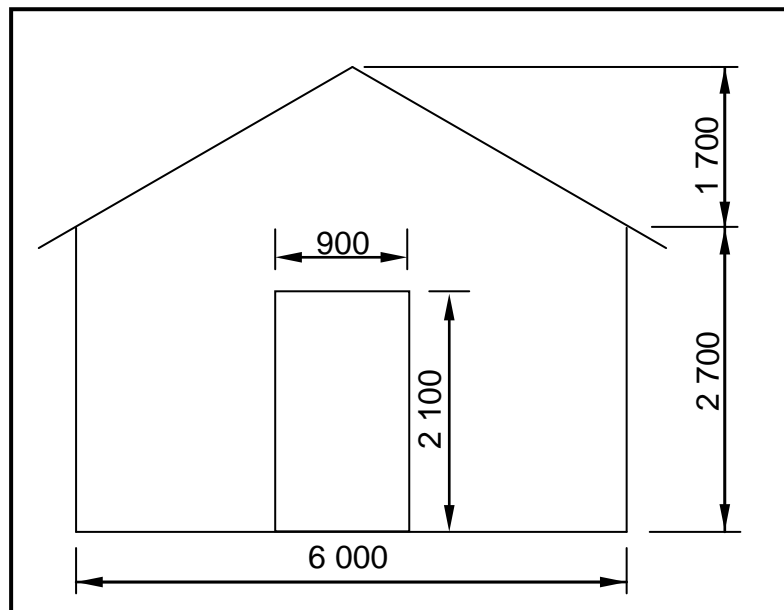

FIGURE 4.2
- 4.2 FIGURE 4.2 below shows the elevation of a gable wall of a building. The wall is 220 mm thick. Use ANSWER SHEET 4.2 (attached) to calculate the following: